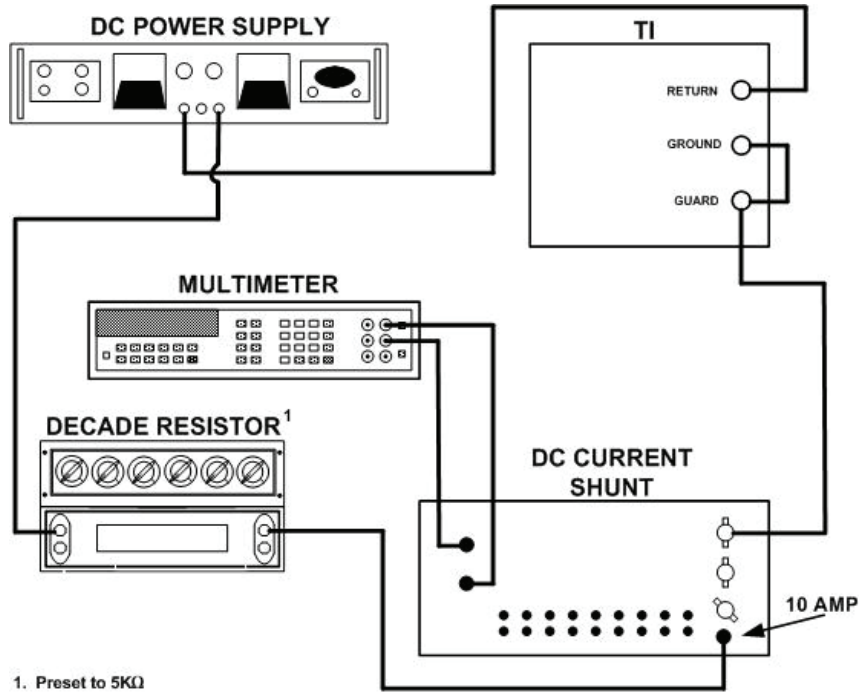

Figure 1. Dc current - equipment setup.
- (1) Position controls as indicated in (a) and (b) below:
- (2) Connect equipment as shown in figure 1.